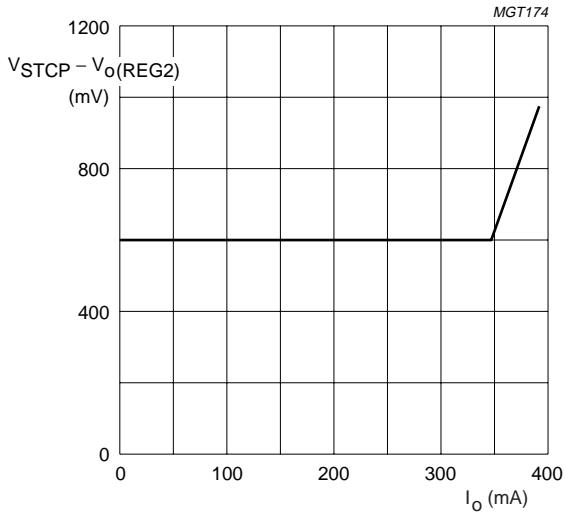

Fig.6 Dropout voltage of V_{STCP} as a function of the output current of regulator 2.
4. The dropout voltage of regulator 2 is the voltage difference between V_{STCP} and $V_o(\text{REG2})$ and depends on the load current (see Fig.6).